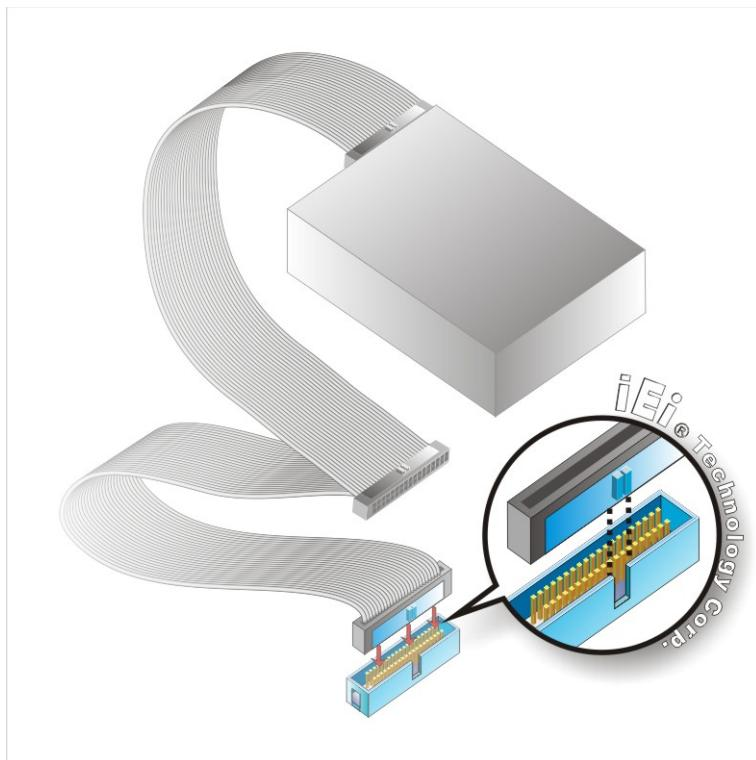

Figure 5-9: IDE Cable Connection
Step 5: Insert the connector. Connect the IDE cable connector to the onboard connector. See **Figure 5-9**. A key on the front of the cable connector ensures it can only be inserted in one direction.